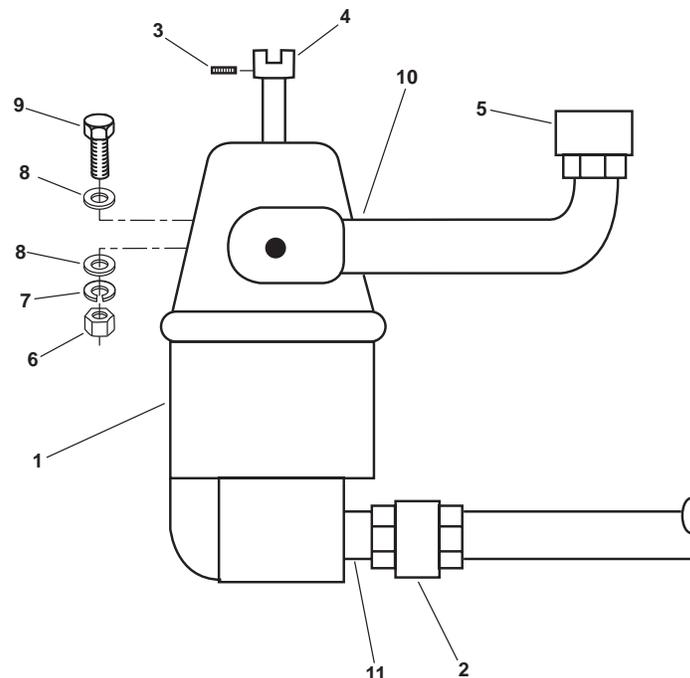

Figure 4. Pump Removal
1. Place a suitable drain pan under the Oil Water Separator (OWS) pump (figure 4, item 1).
2. Slowly loosen the outlet union (figure 4, item 2) and allow any trapped pressure to escape.
3. After all pressure has been released, completely disconnect the outlet union (figure 4, item 2) from the OWS pump (figure 4, item 1).
4. Loosen the OWS pump's (figure 4, item 1) coupling flange setscrew (figure 4, item 3).
5. Slide the coupling flange (figure 4, item 4) towards the OWS pump (figure 4, item 1).
6. Disconnect the inlet union (figure 4, item 5).
7. Remove the three nuts (figure 4, item 6), three lockwashers (figure 4, item 7), six flat washers (figure 4, item 8), and three bolts (figure 4, item 9) securing the OWS pump (figure 4, item 1) to its foundation. Remove the OWS pump and discard the lockwashers.
9. Remove the inlet pipe (figure 4, item 10) and the outlet pipe (figure 4, item 11) from the OWS pump (figure 4, item 1). Retain the outlet pipe and the inlet pipe for installation on the new or repaired OWS pump.
10. Remove the coupling flange (figure 4, item 4) from OWS pump (figure 4, item 1) and retain for installation.
1. Clean the male pipe threads of the inlet pipe (figure 4, item 10) and the outlet pipe (figure 4, item 11) using a wire brush and dry cleaning solvent.
2. Apply antiseizing tape on the male threads of the inlet pipe (figure 4, item 10) and the outlet pipe (figure 4, item 11). Install the inlet and pipe into the OWS pump (figure 4, item 1).
3. Position the OWS pump (figure 4, item 1) on its foundation with the mounting holes aligned.
4. Install the three bolts (figure 4, item 9), the six flat washers (figure 4, item 8), the three new lockwashers (figure 4, item 7) and the three nuts (figure 4, item 6) securing the OWS pump (figure 4, item 1). Do not tighten the bolts at this time.
5. Connect and tighten the outlet union (figure 4, item 2) securely.
6. Connect and tighten the inlet union (figure 4, item 5) securely.
5. Tighten the pump's coupling flange setscrew (figure 4, item 3).
7. Tighten the three bolts (figure 4, item 9) securing the OWS pump (figure 4, item 1).